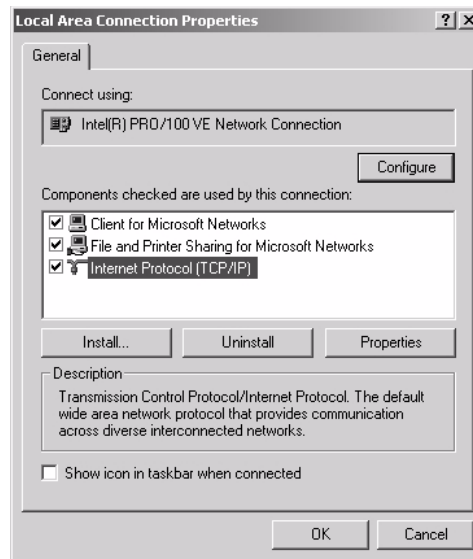

Figure 76: Local Area Connection Properties - Windows 2000
3. Right-click the Local Area Connection icon that represents the network adapter connecting the computer to the router and select Properties. The Local Area Connections Properties window appears as shown in Figure 76.